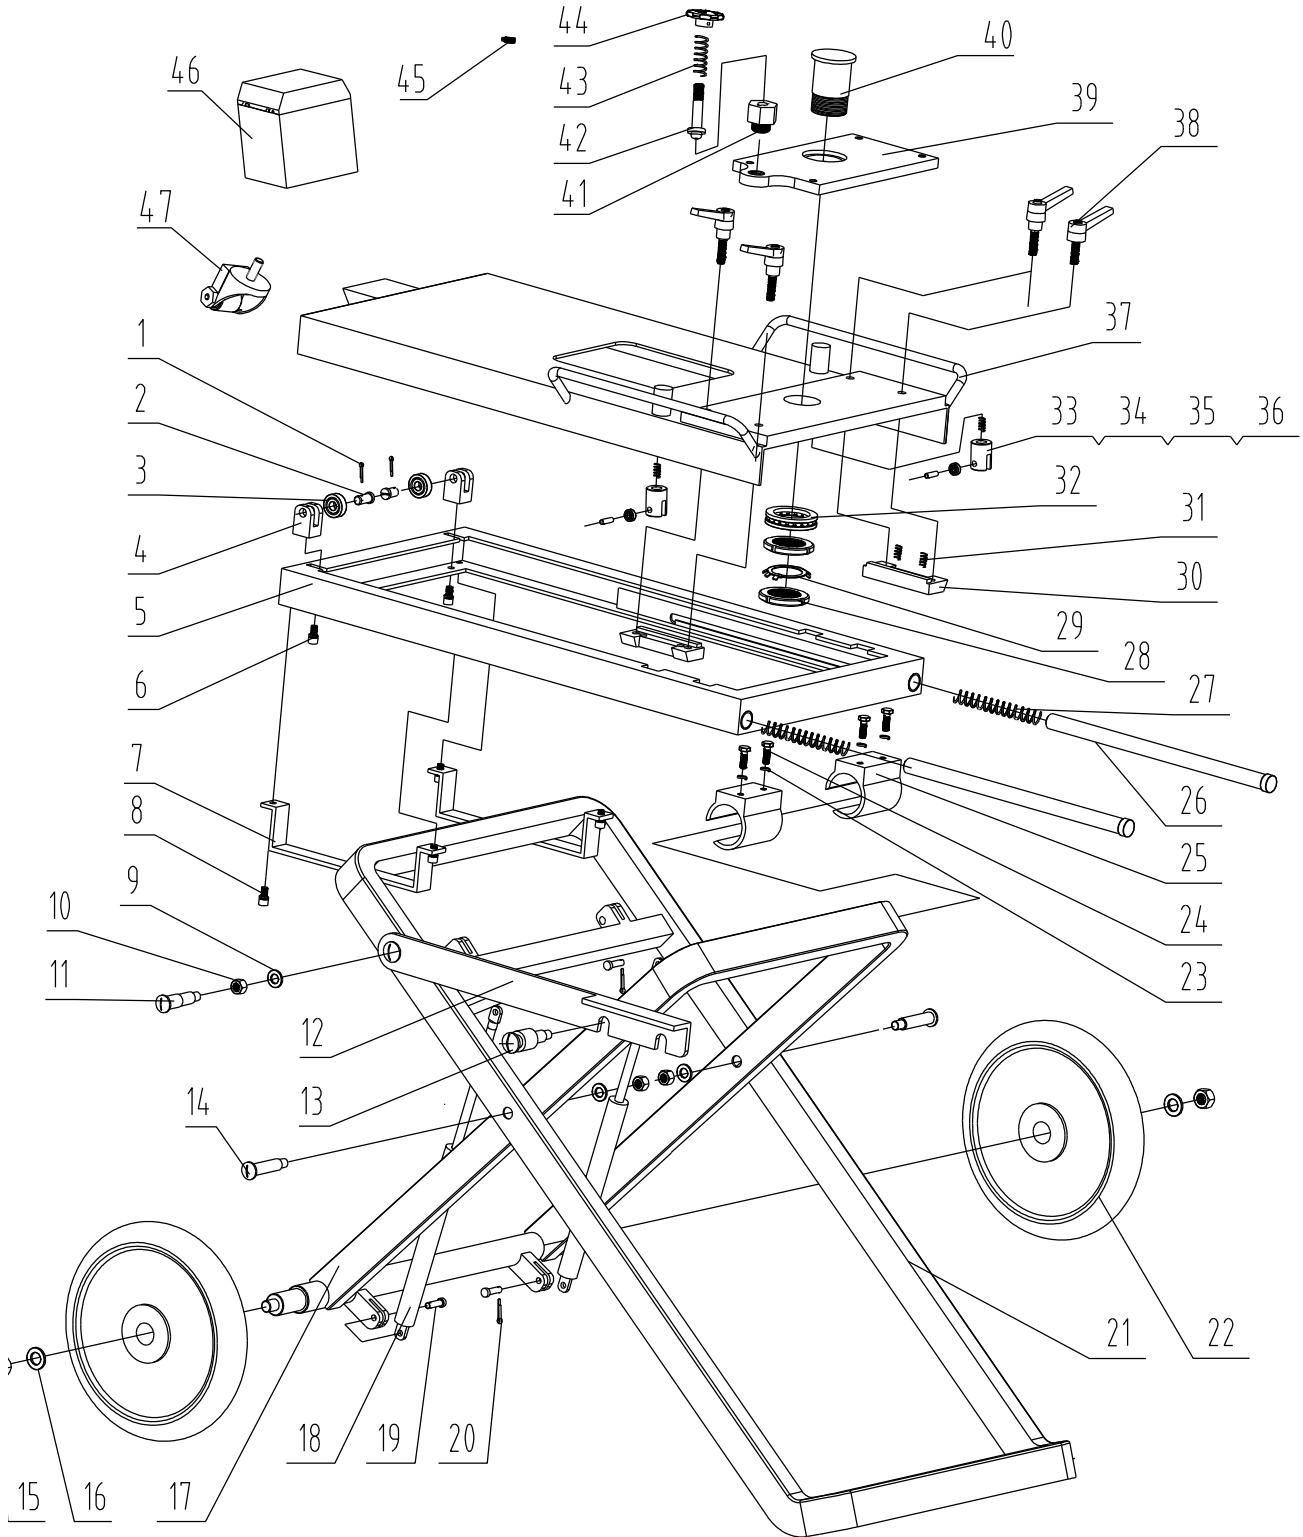

Figure 17
6. Rack assembly (Figure 17) parts list